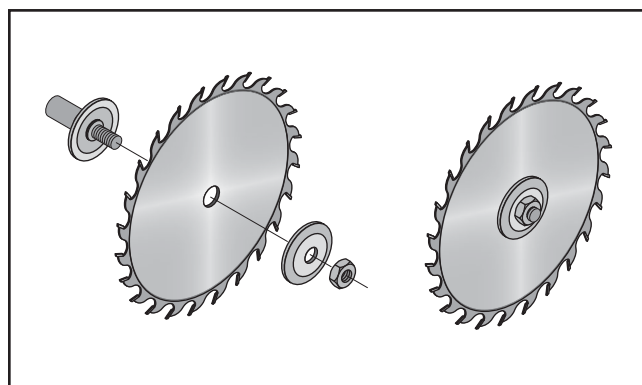

Figure 70. Main blade installation and order of assembly.
6. Install the blade as shown in **Figure 70**, making sure the teeth face toward the scoring blade. DO NOT overtighten the arbor nut.